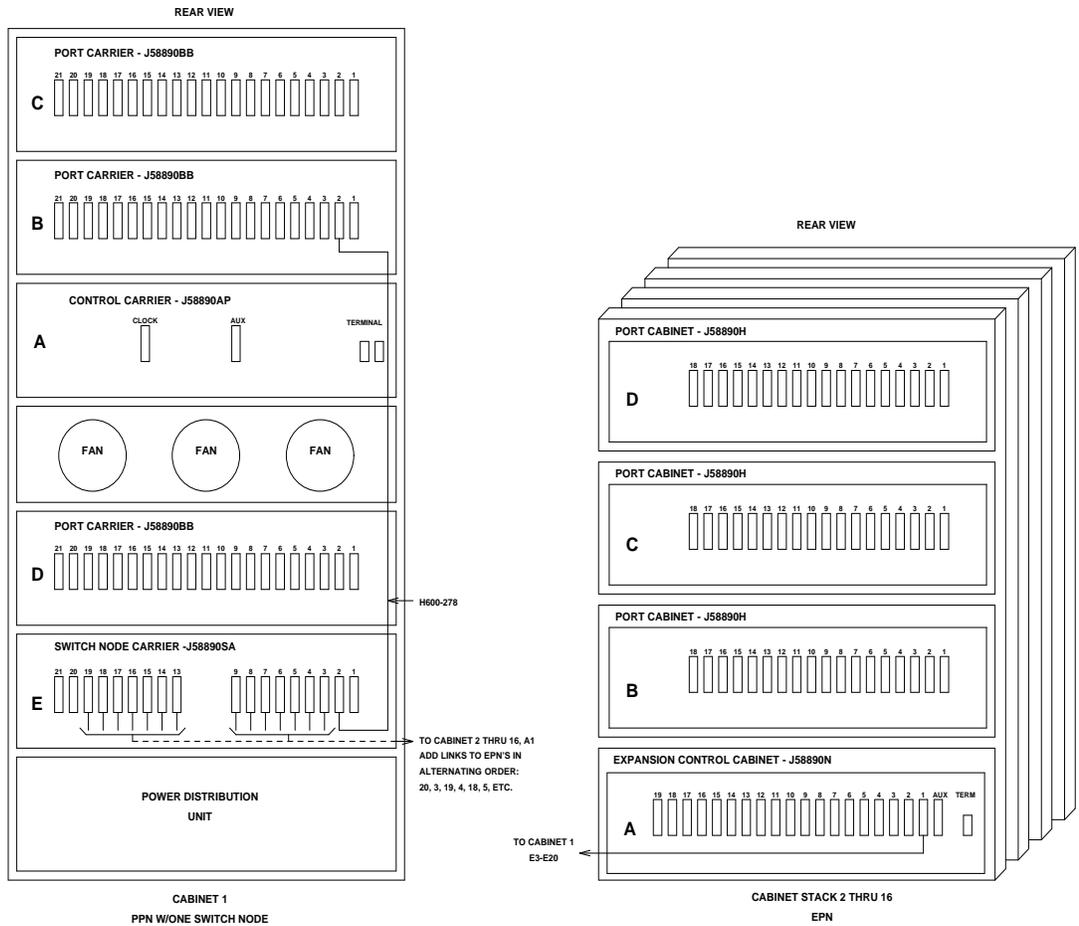

Figure 3-31. Fiber-Optic Connections through Center Stage Switch
1. Behind the PPN cabinet (see Figure 3-31):
2. Behind switch node carrier E of PPN cabinet 1 (see Figure 3-31):